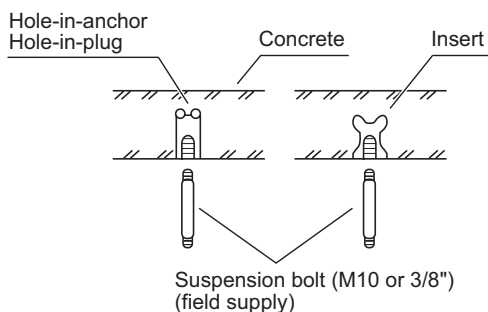

Fig. 2-89
- Insert suspension bolts (Fig. 2-89)
- (2) Screw in the suspension bolts allowing them to protrude from the ceiling (Fig. 2-89).